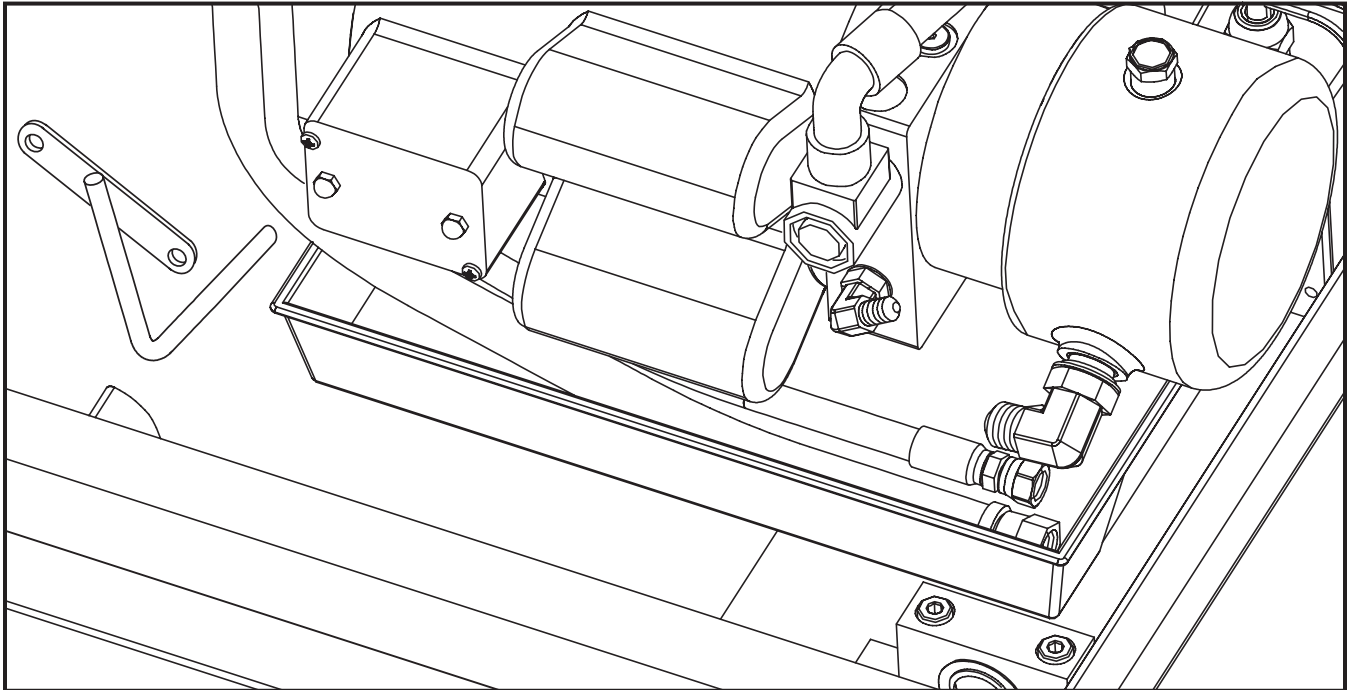

Figure 10 - Hydraulic Fluid Drain Detail
2. Disconnect the lift from the power source. As detailed in Figure 10, remove the two (2) screws that secure the Hose Hold Down (VIS-B7001354), remove the Hose Hold Down, and re-install the screws to secure the motor junction box plate (Note: The three phase power unit does not use the Hose Hold Down). Remove the two (2) 3/8 –16 x 1inch long bolts (MEC-B2001379) that secure the power unit to the motor mount bracket. Raise the power unit approximately 2 ½ inches and insert a shallow pan (approximately 8 in. x 14 in. x 2 in. deep) under the power unit such that fluid drained from the pressure line fitting (HYD-B4001034) and return line fitting (HYD-B4001033) will drain into the pan. (NOTE: The pan should be strong enough to support the weight of the power unit.) Next, remove the cylinder return line from the reservoir by disconnecting the hose fitting (HYD-B4000191) from the return line fitting (HYD-B4001033) and remove the cylinder pressure line from the pump housing by disconnecting it from the pressure line fitting (HYD-B4001034). Allow the reservoir, pump, return line, and pressure line to drain into the pan. It may be necessary to tip the power unit slightly on its side to completely drain the reservoir.